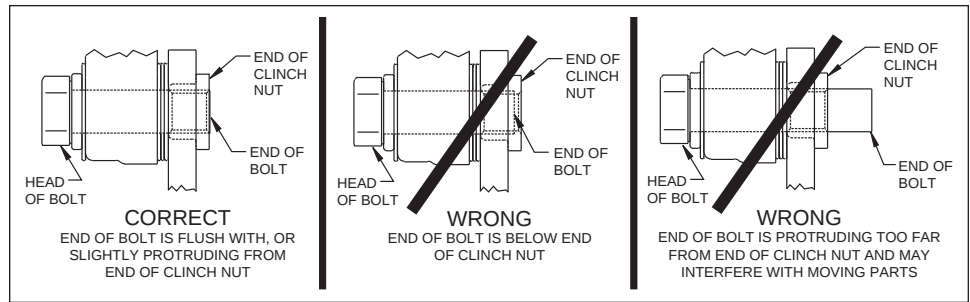

Figure 5. Clinch Nut Engagement Diagram
Assembly Instructions (numbers in parenthesis refer to the parts list, and Figure 1 on the preceding pages): **CAUTION:** All mounting bolts must fully engage clinch nuts. Be sure to check that all bolts are either flush or protruding through flanged side of clinch nut after shimming, Figure 5.
•**NOTE:** Please reference the caution statement at the beginning of the assembly instructions. Mount the caliper (4) onto the caliper mounting bracket (1) using bolts (6) and washers (5), as shown in Figure 1. Initially place two .035" thick shims (7) on each bolt between the caliper and the bracket, Photo 5. Temporarily tighten the mounting bolts and view the rotor (3) through the top opening of the caliper. The rotor should be centered in the caliper, Photo 6. If not, adjust by adding or subtracting shims between the bracket and the caliper. Always use the same amount of shims on each of the two mounting bolts. **NOTE:** The end of each bolt must be flush with or slightly protruding from the head of the clinch nut, as shown in Figure 5. If necessary place spare shims between washer (5) and caliper mounting ear to achieve the proper clinch nut engagement. Once the caliper alignment and clinch nut engagement are correct, remove the bolts one at a time, apply red Loctite® 271 to bolt threads, and torque to 40 ft-lb.